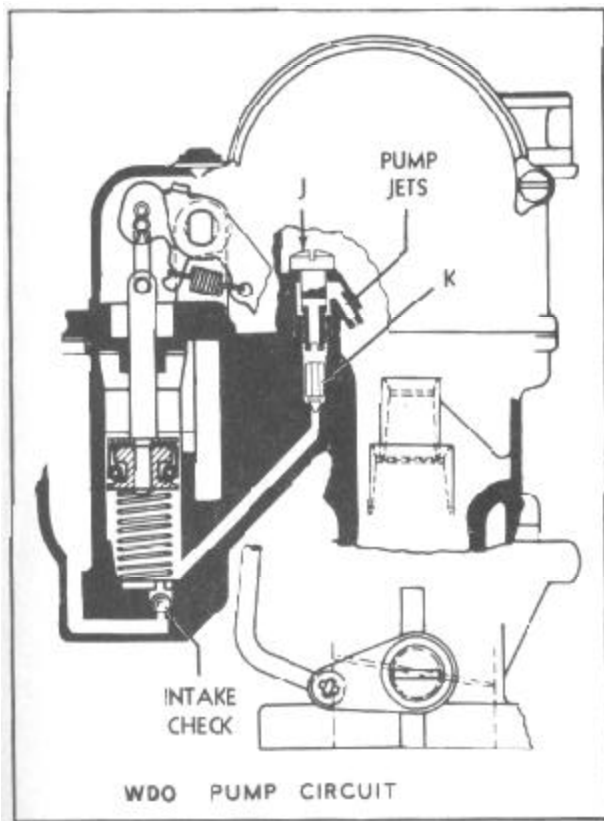
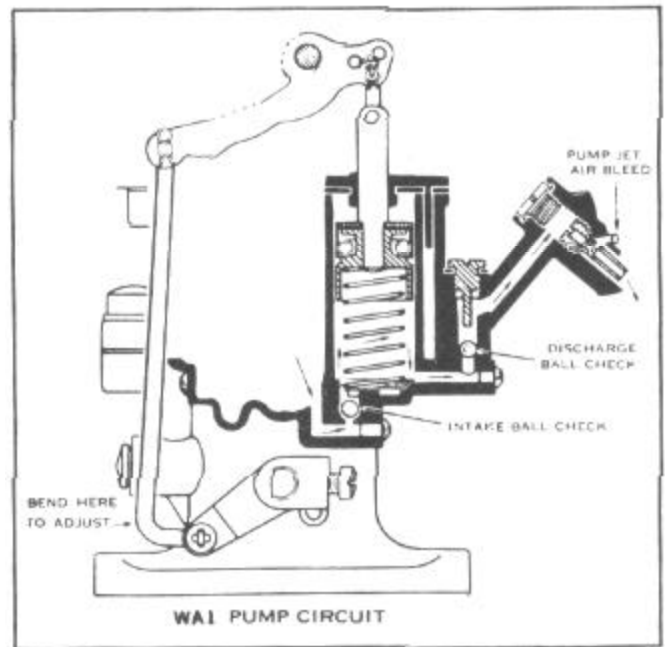

FIGURE 3
FIGURE 4
Both the WDO, Figure 3, and WA1, Figure 4, carburetors incorporate a throttle operated accelerating pump which discharges additional fuel into the carburetor throat when the throttle is opened. The discharge is prolonged by the pressure of the pump and the restriction of the pump jet. This discharge allows time for the high speed circuit to furnish necessary fuel.
5. Adjust pump travel by bending throttle connecting link at lower angle, Figure 4.